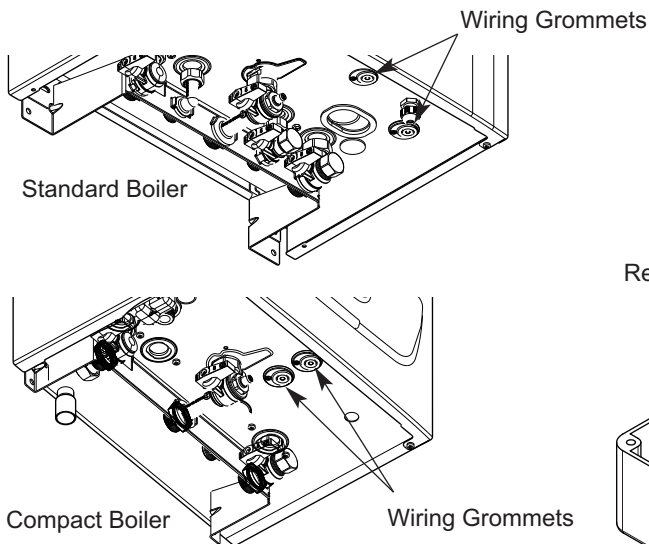

Fig. 6
7. Remove one of the appliance blanking grommets at the base of the boiler (Fig. 6), pierce the diaphragm and insert the wires from the relay box, leaving sufficient slack in the wires to allow the control box to be hinged fully open. Refit the grommet.
8. Connect the cable from the relay box to terminals 9 & 10 of the M2 terminal block, See Figs. 6 & 7.
1. Remove one of the appliance blanking grommets at the base of the boiler (Fig. 6), pierce the diaphragm and insert the wires from the Outdoor Sensor.